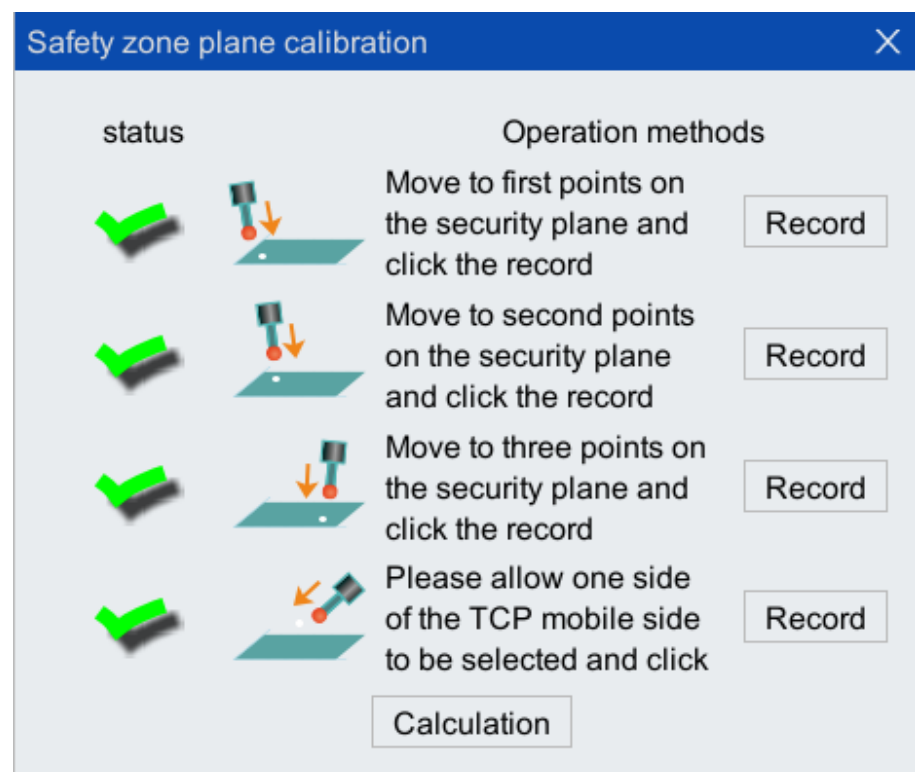

Figure 5-26 Four point calibration successful interface
Step5. When all 4 × become ✓, click <Calculate> to complete the calibration. As shown in Figure 5-26.